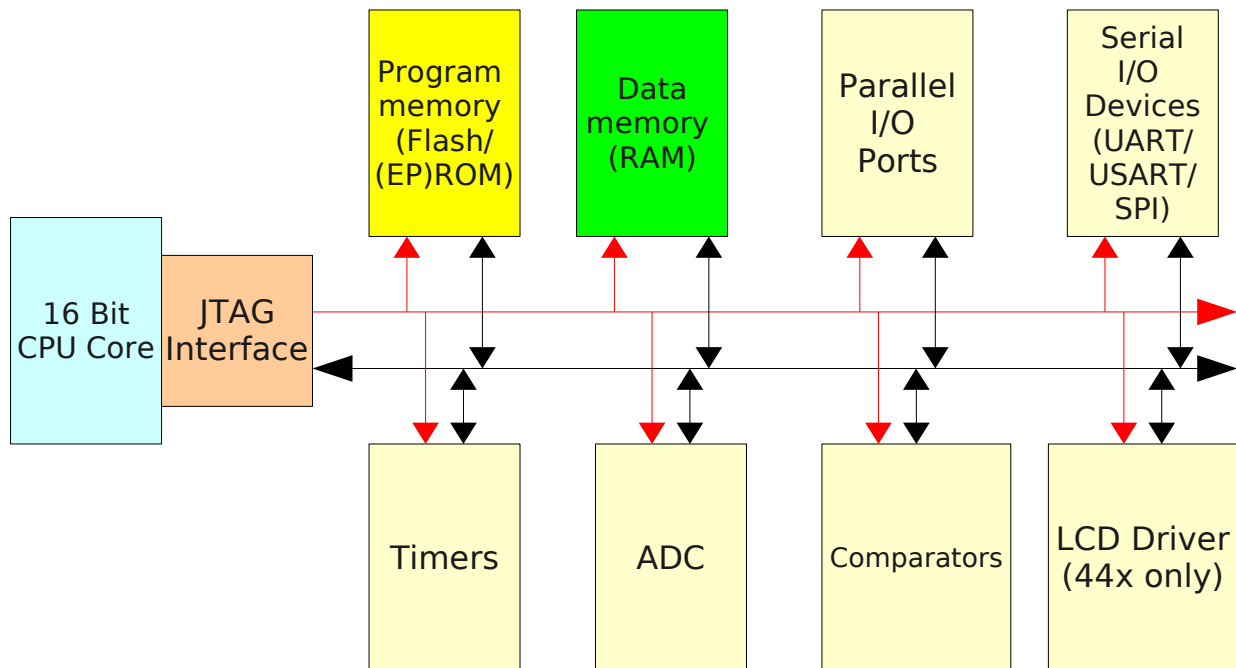

Figure 1. The TI MSP430 family
The Texas Instruments (TI) MSP430 family of processors are low power 16 bit devices. They are marketed at low power applications such as battery devices, however in spite of this they contain a sophisticated processor core and depending upon the model, a useful array of integrated peripherals. TI produces a set of microcontrollers based around a core 16 bit CPU as shown in Figure 1. Different members of the family include different peripherals and different amounts of memory. They all include a JTAG interface. (JTAG stands for Joint Test Action Group and in this context represents a standardized interface to the microcontroller that can be used for control and monitoring during program or system testing and debugging). Product designers choose the particular family member that best suits their application, generally speaking, cost and power consumption increases with sophistication.